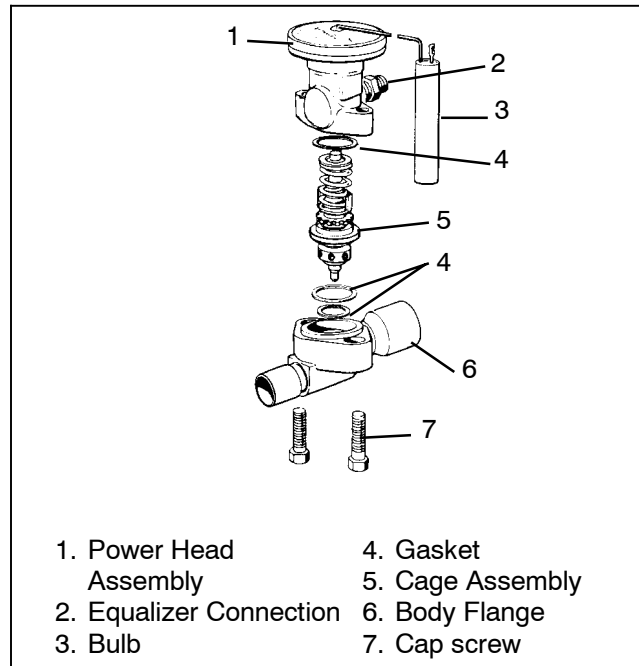
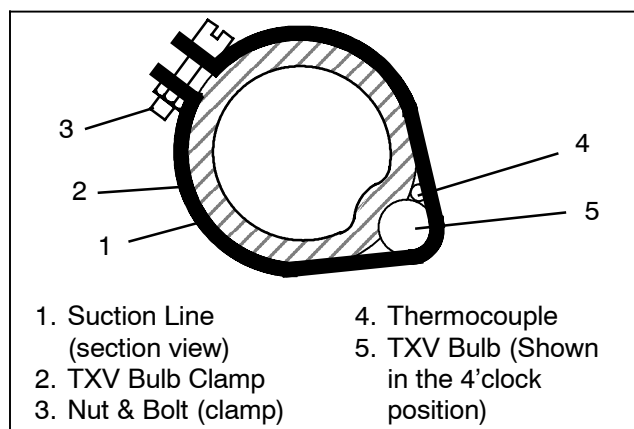

Figure 4-10. Thermostatic Expansion Valve
Figure 4-11. Thermostatic Expansion Valve Bulb and Thermocouple
The thermostatic expansion valve (Figure 4-10) is an automatic device which maintains constant superheat of the refrigerant gas leaving the evaporator regardless of suction pressure. The valve functions are: (a) automatic control of refrigerant flow to match the evaporator load and (b) prevention of liquid refrigerant entering the compressor. Unless the valve is defective, it seldom requires any maintenance.
- Remove insulation from expansion valve bulb. (See Figure 4-10 and Figure 4-11.)
- c. Place temperature thermocouple in contact with the suction tube and parallel to the TXV bulb, and then secure loosened clamp making sure both bulb and thermocouple are firmly secured to suction line. (See Figure 4-11.) Reinstall insulation around the bulb.